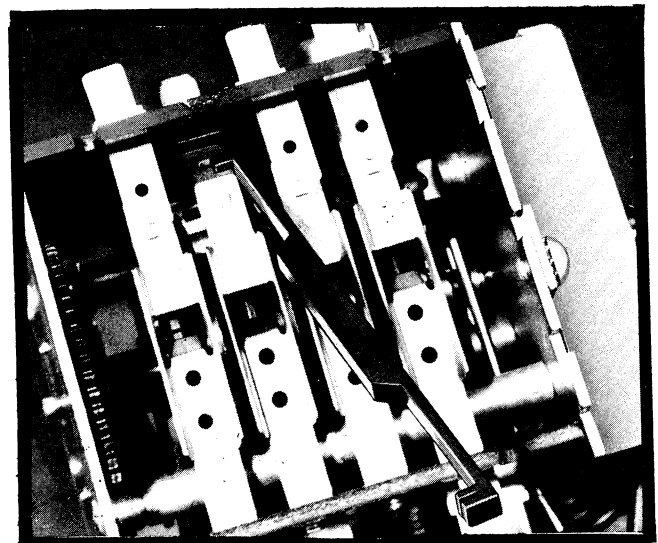

Figure 34
- d. Place the contact bending tool over the bottom contact arm and bend it up until correct pressure is obtained, *Figure 34*.